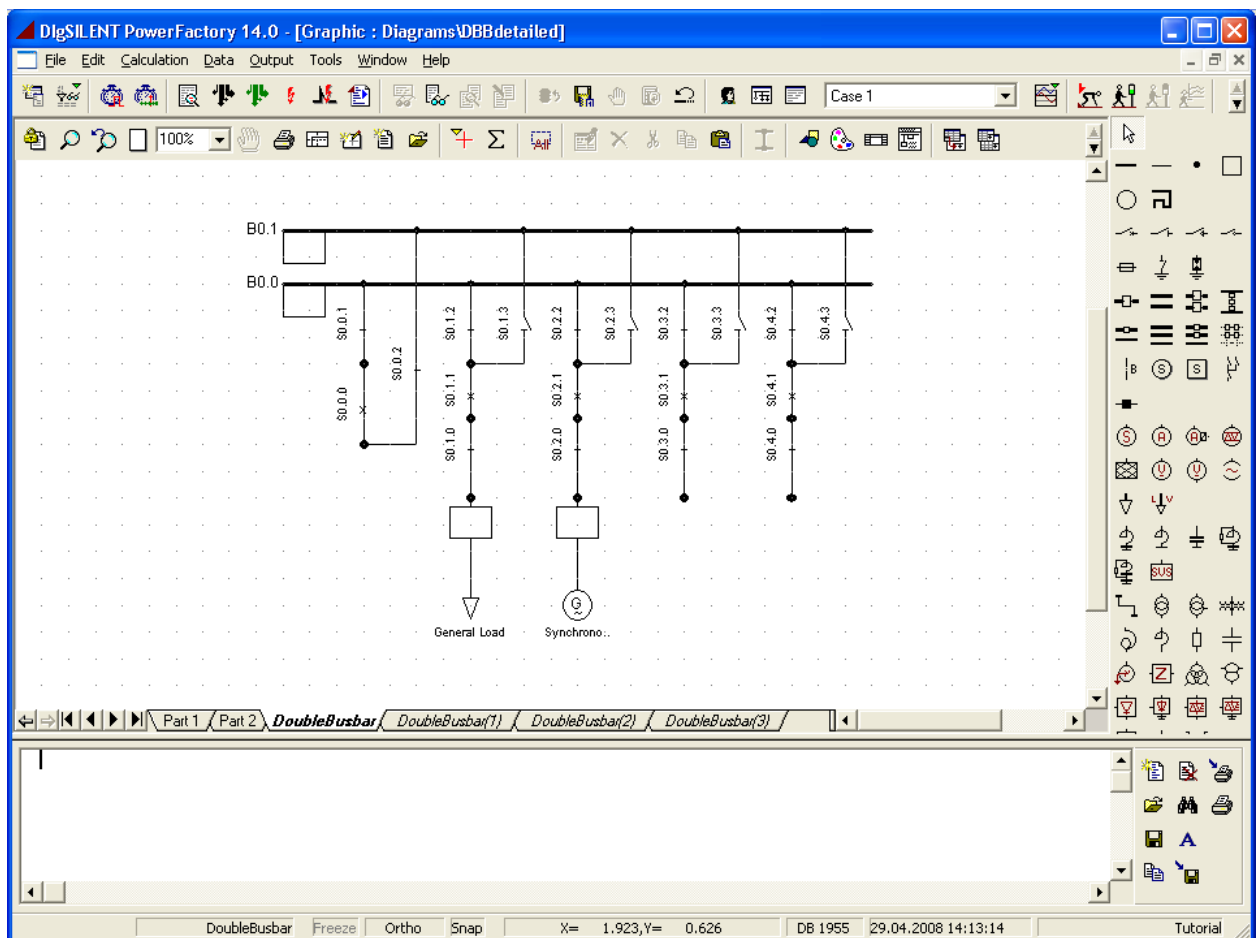

Fig. F.2: Detailed Graphic of a substation with double busbar system
- ▶ Go to on of the detailed graphics of the substations as shown in figure F.2. If the graphic pages are not available, click on the double busbar system in the graphic "Part 2" with the right mouse button and select 'Show Detailed Graphic of Substation' from the context sensitive menu.